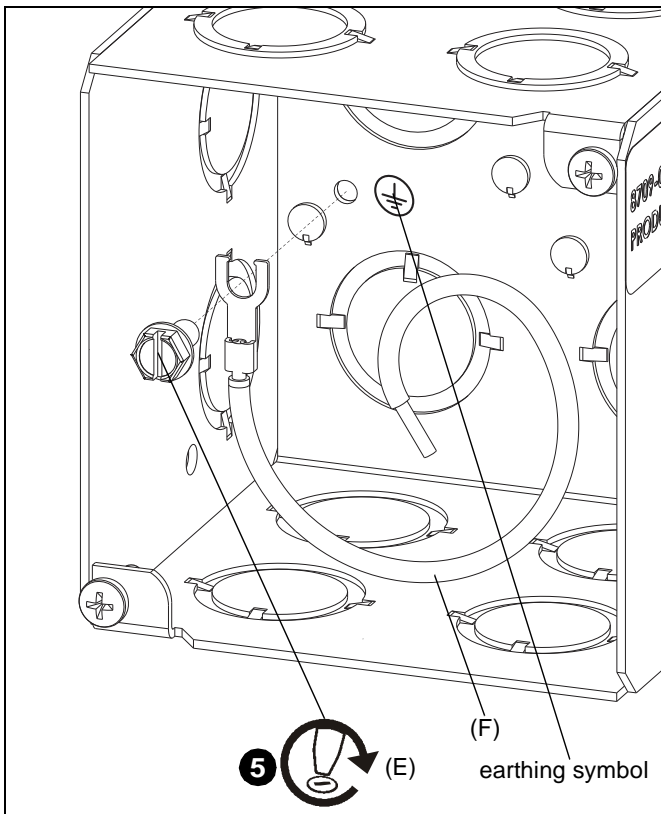

Figure 3
- Use #10-32 x 3/8" flange screw (E) and flathead screwdriver to attach grounding wire (F) to housing at hole near earthing symbol. (See Figure 3)